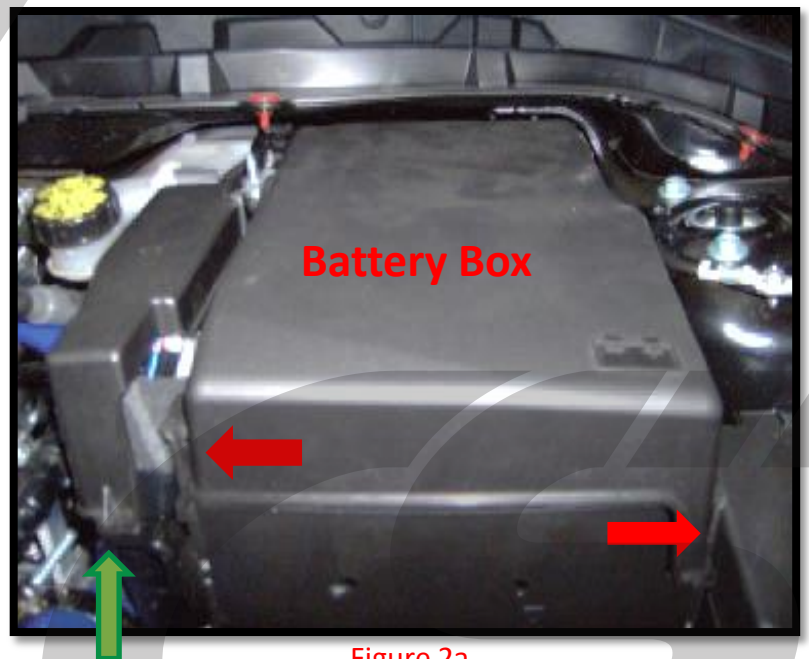

Figure 2a
- a) **Remove the battery box cover.** The cover is held on with two clips (shown with **red arrows** in **Figure 2a**). Pry the clips outward by hand and lift the front of the lid off of the box.